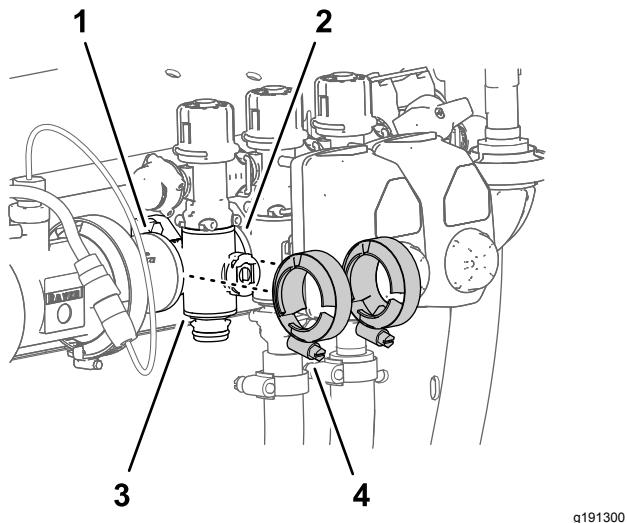

Figure 113
3. Remove the 2 flange clamps that secure the section-manifold valve to the flanges of the adjacent components (Figure 113).